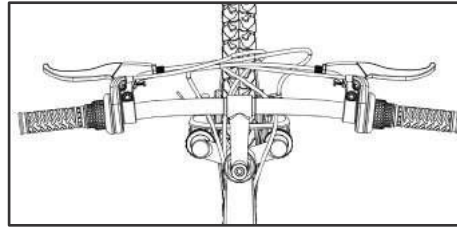
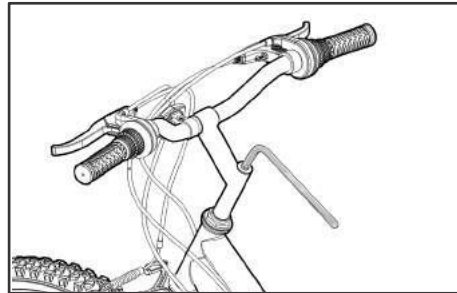

Figure 18
Figure 19
The stem should be pointing towards the front of the bike, aligned with the front tire (see Figure 18). Depending on the type of bolt, tighten the stem bolt with either (B) an adjustable wrench or (C) a 4, 5, or 6 mm Allen wrench (see Figure 19).
Loosen the bolts on the side of the stem, slide the stem into place, making sure it lines up with the fork (see Figure 18). Check